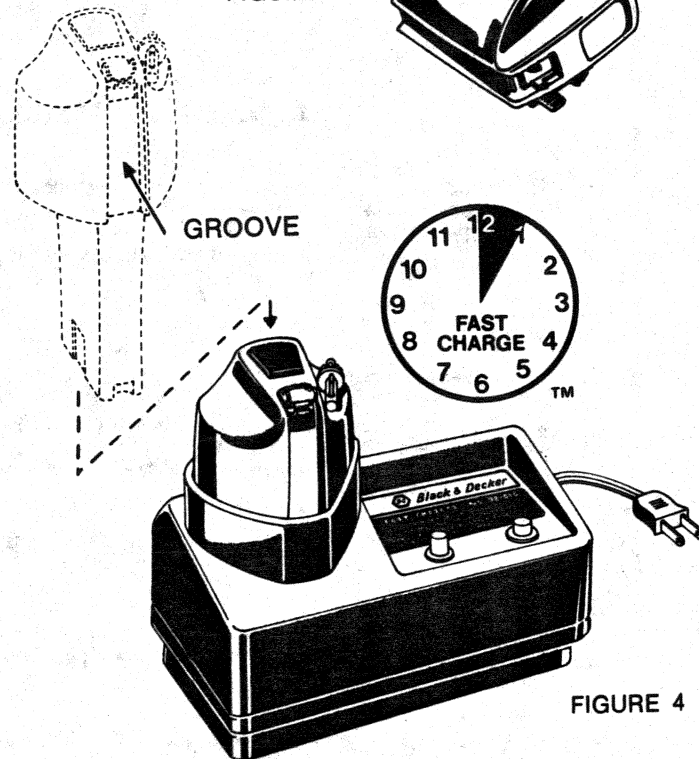

FIGURE 4
- Place the Power Pack in the Charger as shown in Figure 4. Note that groove in Power Pack faces front. Plug in Charger.